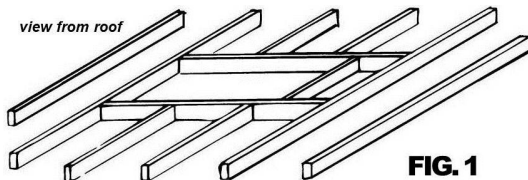
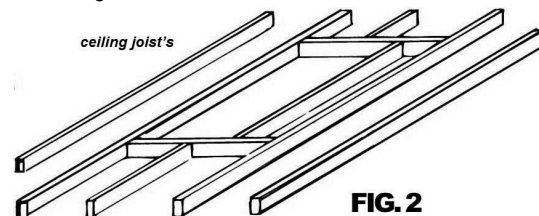

FIG. 1
FIG. 2
STEP TWO: *What you need to make the opening – Timber Joist (Fig. 1 and Fig. 2):* Timber, MPG10, 90x45mm pine or hardwood, about five (5) metres will be enough, pick a straight piece with minimal knots, and about 2 doz. 90mm long nails.